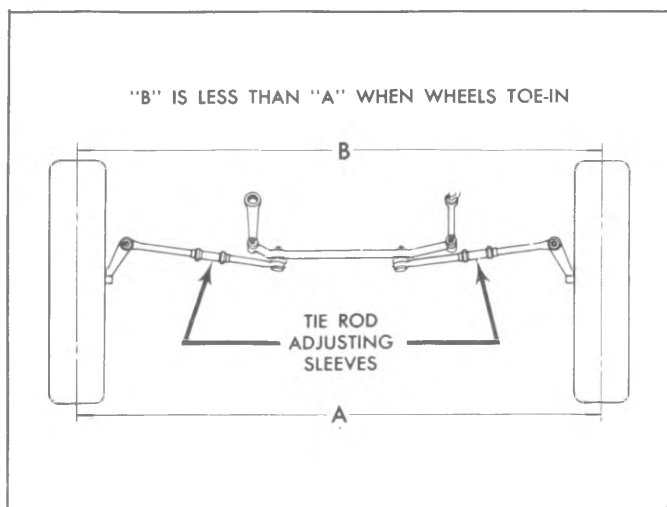

Fig. 3A-3--Toe-In Adjustment
7. Correct the actual caster angle, as arrived at in Step 4, as necessary to keep within the specifications by adding or subtracting shims from the front or rear bolt on the upper control arm shaft, shown in Figure 3A-2.